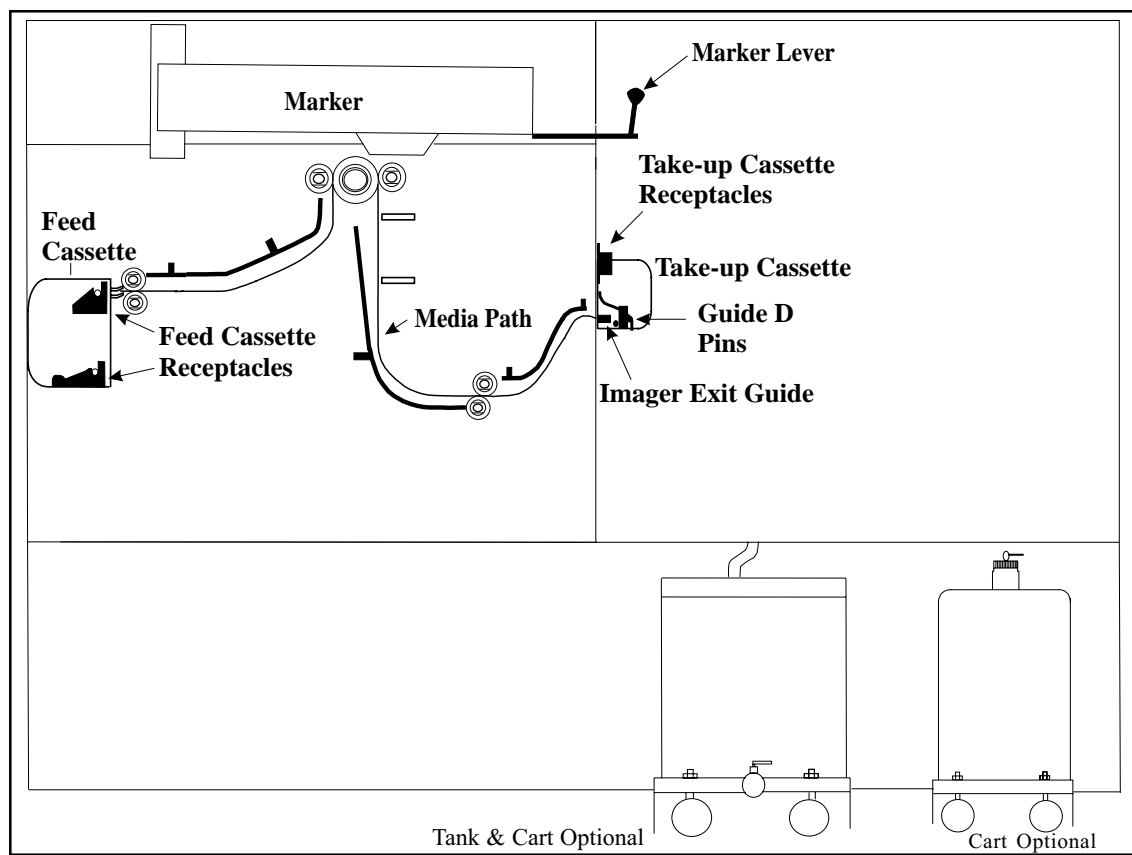

Figure 3-5 Location of Optional Feed and Take-up Film Cassettes
1. Open the top cover. Raise the marker by pulling the marker lever towards the front of the Platesetter until the lever stops. Lift up on the marker gently. (See figure 3-5).
10. Install the takeup cassette and align cassette pins to receptacles, locking cassette into place. See figure 3-5.